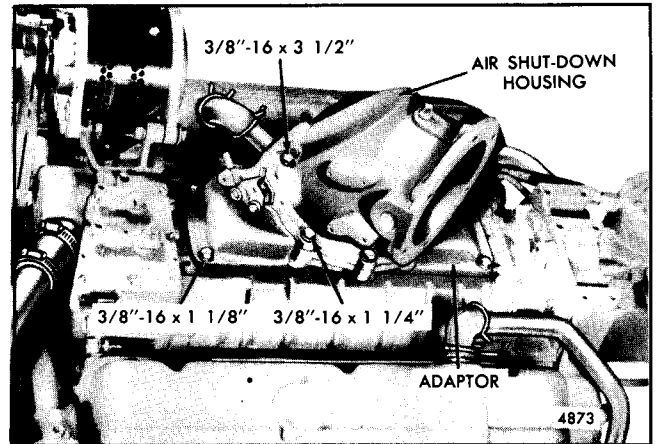

Fig. 5 - Location of Air Shutdown Housing and Adaptor Mounting Bolts (8V-53 Engines)
2. Refer to Fig. 5 and install the air shutdown housing adaptor on the screen and gasket assembly. Install the six bolts and lock washers and tighten them to 16-20 lb-ft (22-27 Nm) torque.